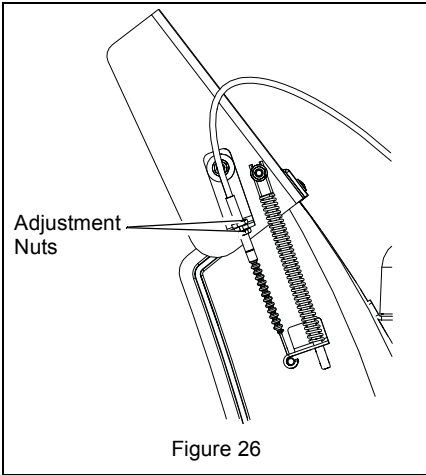

Figure 26
2. Loosen adjusting nuts on cable support bracket on side of chute deflector. (Figure 26).